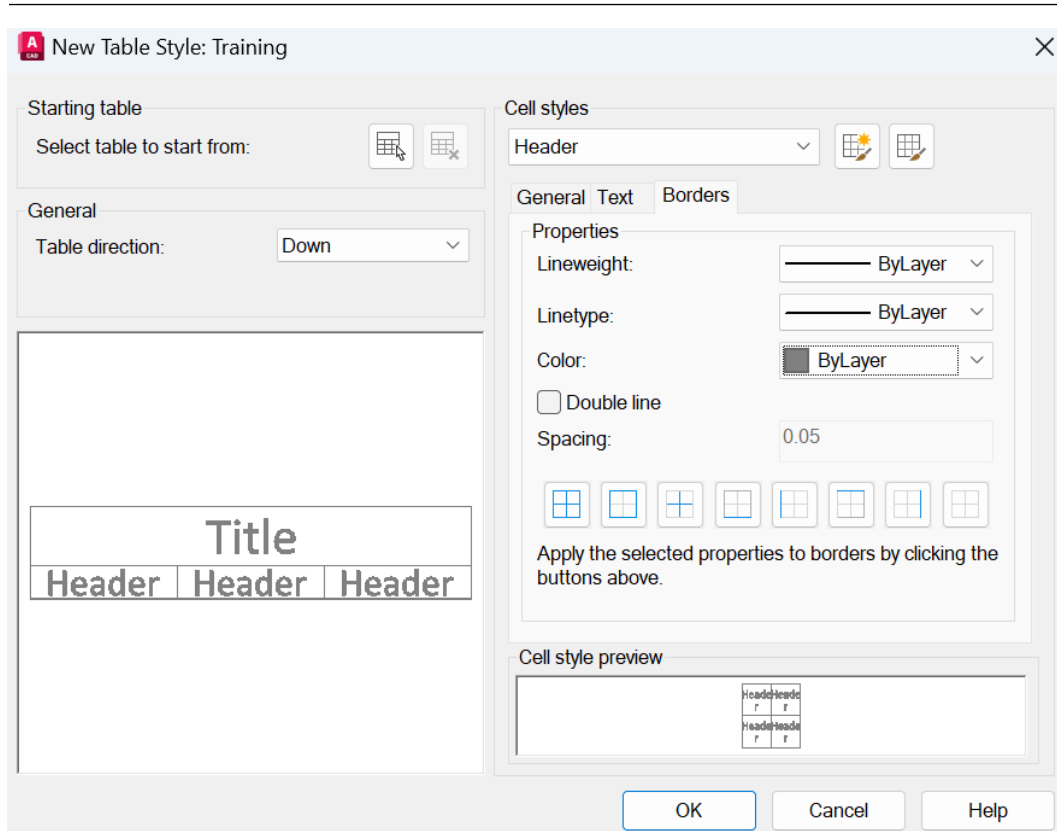

Figure 7.40: The Header cell style Borders tab
18. Your table style is now looking more normal as the **Header** cell style looks sensible in the table and cell style previews, as it does in *Figure 7.40*.